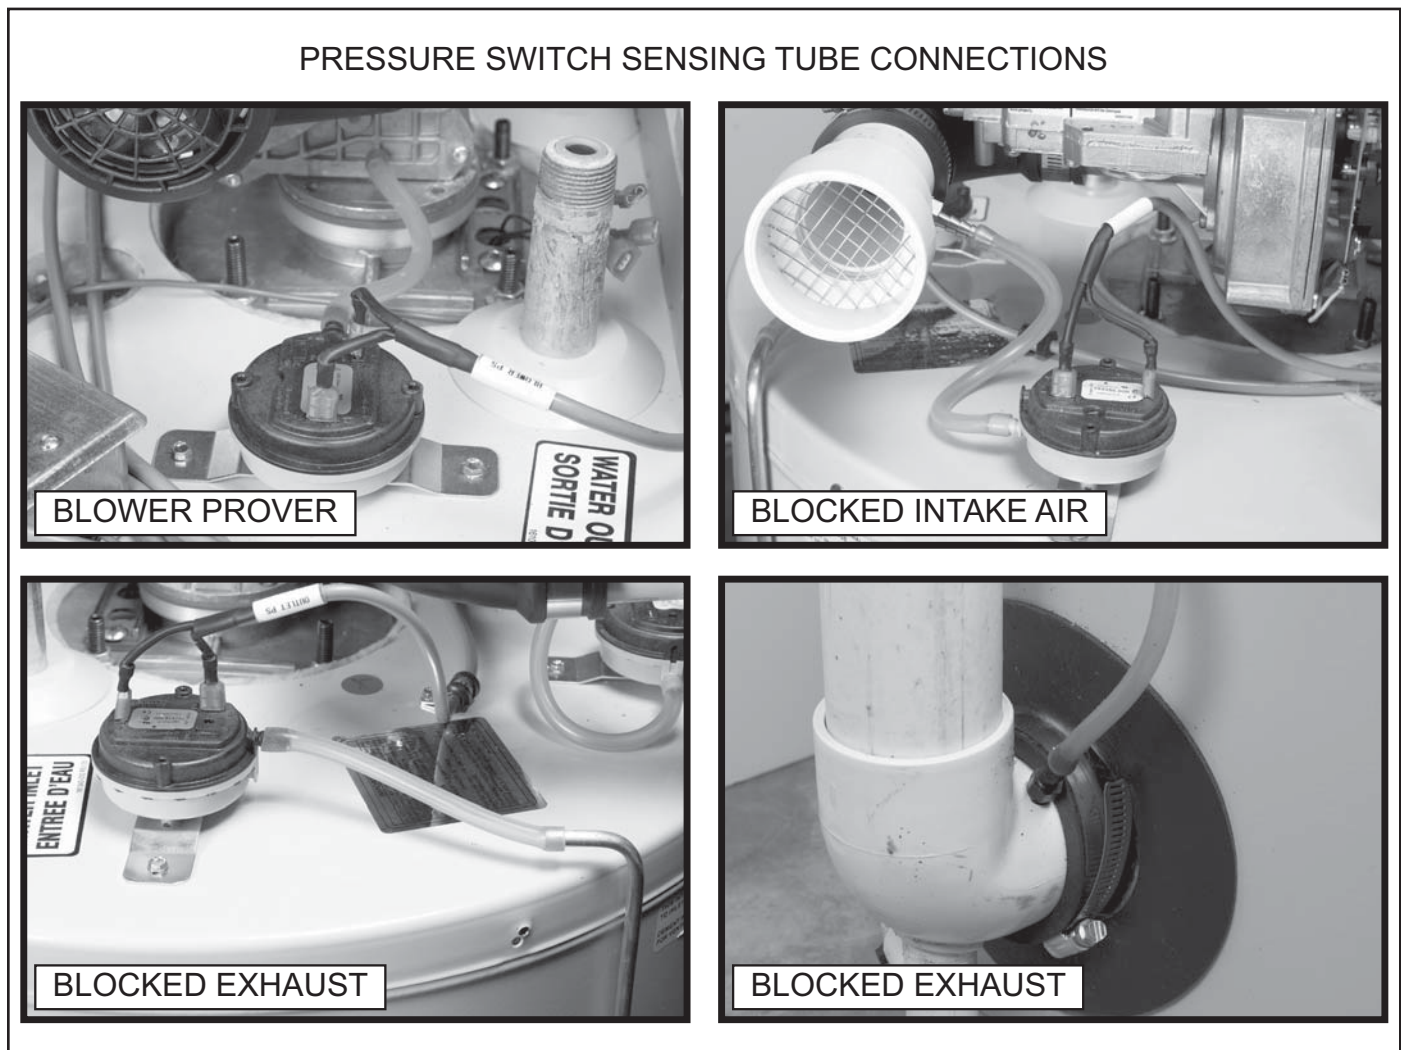

Figure 32
The three pressure switches monitor pressure through plastic sensing tubes from three different sensing ports on the water heater, see Figure 32 below.
3. Connect a digital manometer to the sensing tube disconnected above or connect a longer manometer sensing tube to the port on the water heater if needed, see Figure 32 on page 30 and Figure 34 on page 34.